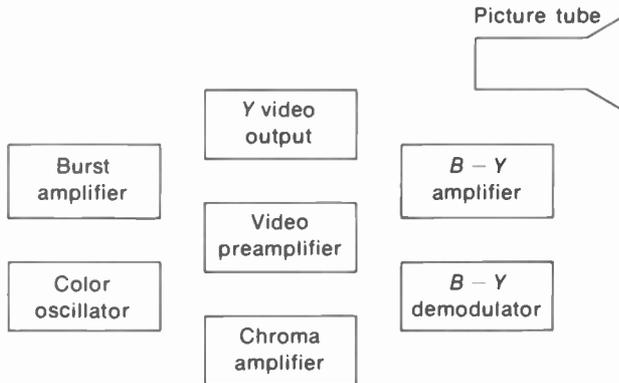

FIGURE 17-31 FOR ESSAY QUESTION 26.
26. Show arrows for the block diagram in Fig. 17-31 below, to indicate the sequence for  $Y$  and  $B - Y$  signals to the picture tube.